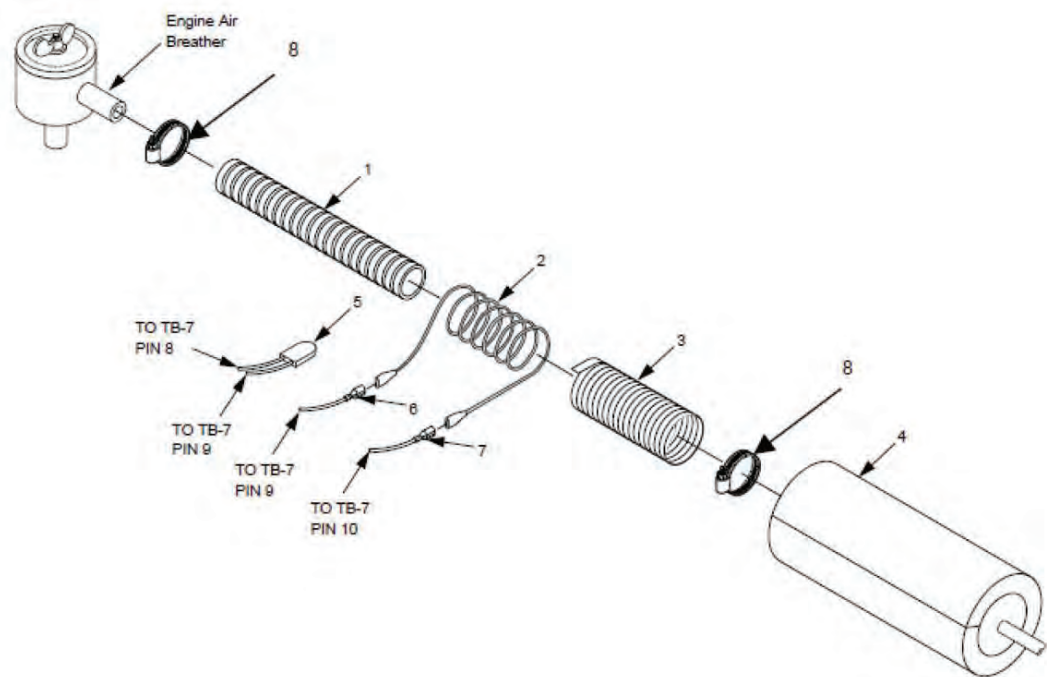

Figure 7. Breather Tube Heater Assembly Removal.
13. Remove insulator (Figure 7, Item 4), foil tape (3), rope heater (2), clamps (8), metallic hose (1), and electrical leads (6 and 7) from rope heater (2) to TB-7 in output box. Remove thermostat (5) from TB-7.